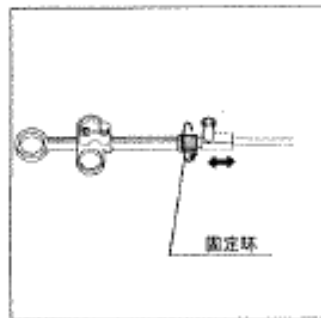

Fig 3.4
7. When the lock can not insert any longer, circumvolve the retaining ring for 180 degrees (See fig.3.4)
8. Check the joints between the handle and the core, and the core and the sheath. Make sure the retaining ring and the lock are firmly connected (See fig.3.4)